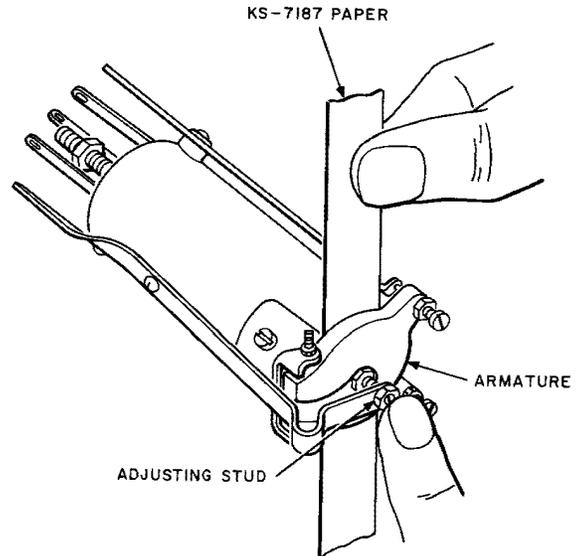

Fig. 48—Method of Cleaning Armature and Shell on 114- and Similar-Type Relays
7.06 Armature and Shell on 114-, 124-, 126-, 174-, and 198-Type Relays: Insert KS-7187 paper between the armature and shell as indicated in Fig. 48. Operate the relay manually and withdraw the paper. Repeat the operation until all surfaces between the armature and shell have been cleaned and the paper shows no evidence of dirt when it